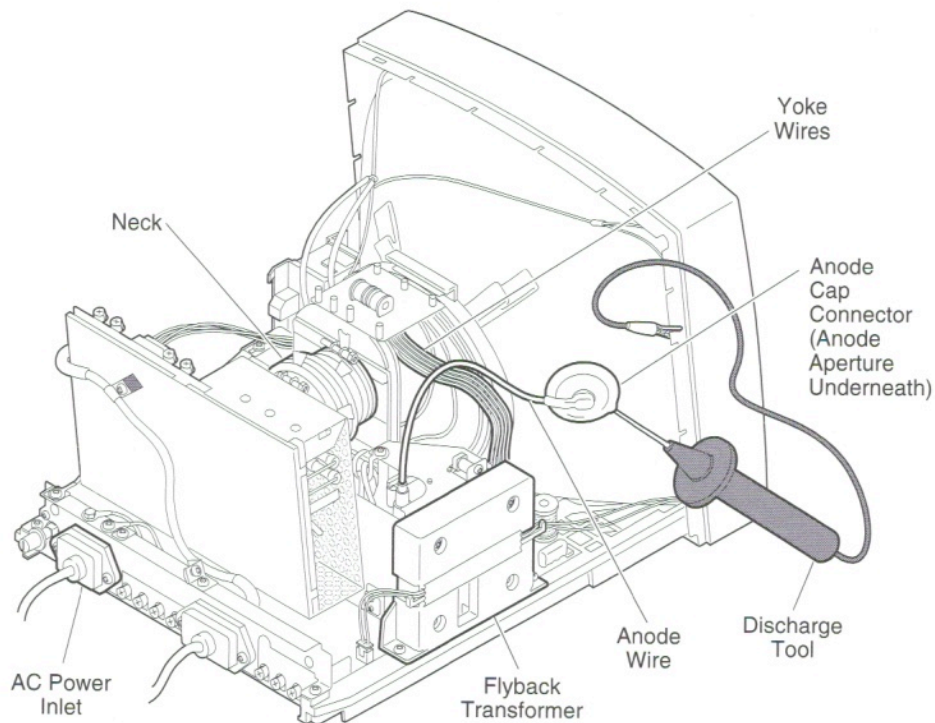

Figure 1. CRT Discharge and Danger Points
7. **Always discharge the anode before touching anything inside the monitor** (see Figure 1). High voltage (up to 12,000 V DC) can be present on the anode and other components—even when power is off.
9. **Do not pick up or handle a CRT by the neck** (see Figure 1). To prevent an implosion, take every precaution against breaking the tube. Be especially careful with the neck, where the tube is thinnest.
10. **When adjusting a live CRT, never touch any of the components shown in Figure 1.**
2. Attach the alligator clip on the CRT discharge tool to the metal part of the bezel (see Figure 1).
3. Put one hand in your pocket or behind your back. With your other hand, insert the tip of the CRT discharge tool under the anode cap (see Figure 1) until it touches the anode ring.